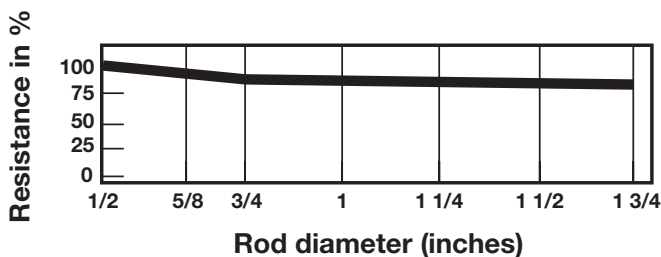

Figure 10
**Size:** Increasing the diameter of the rod does not significantly reduce its resistance. Doubling the diameter reduces resistance by less than 10%. (Figure 10)